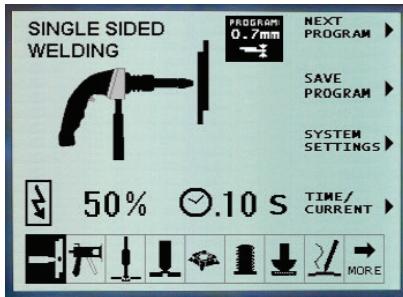

Figure 6.4
2. Use the navigation buttons, Left or Right to select desired weld program (refer to section 4.8 "Setting the default weld program" or fig.4.9). The display screen shows the currently selected program (fig. 6.4).